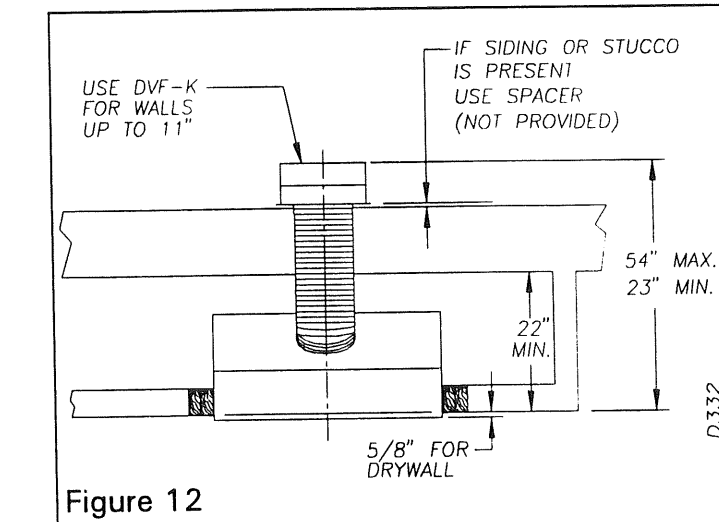

Figure 12
**Projected installations** can extend a **maximum of 54"** into the room as shown on figure 12, page 4. A projection may be ideal for a new addition on an existing, finished wall.
Depending on the type of installation, refer to the appropriate illustration. On a flush or projected installation if you have a wall thickness of up to 11 inches, use termination DVF-K ( see Figure 12).